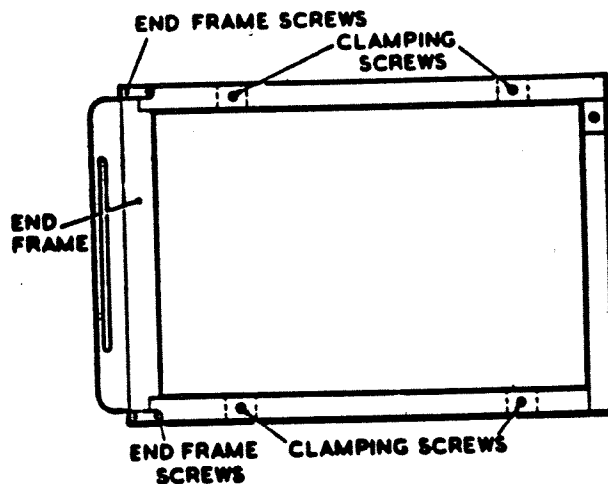

Fig 2A-5. Mounting of I385 Xerox Plate in Frame
17. Replace the top half of the Processor case, securing it to the bottom half with the four long nuts previously removed. Unpack the six Xerox plates and frames with light-shields. Remove the light-shields from the frames. Refer to Fig. 2A-5 and remove the end strips of the plate frames after first removing the two outside securing screws, and slackening off the two inner ones. Loosen the four registration clamps by slackening the clamp screws. Holding each plate at its edges, load into the frame and, ensuring that the plate is pushed over to one or other of the long sides of the frame, tighten the clamp screws. Next replace the frame end strips, securing these with the fixings previously mentioned.